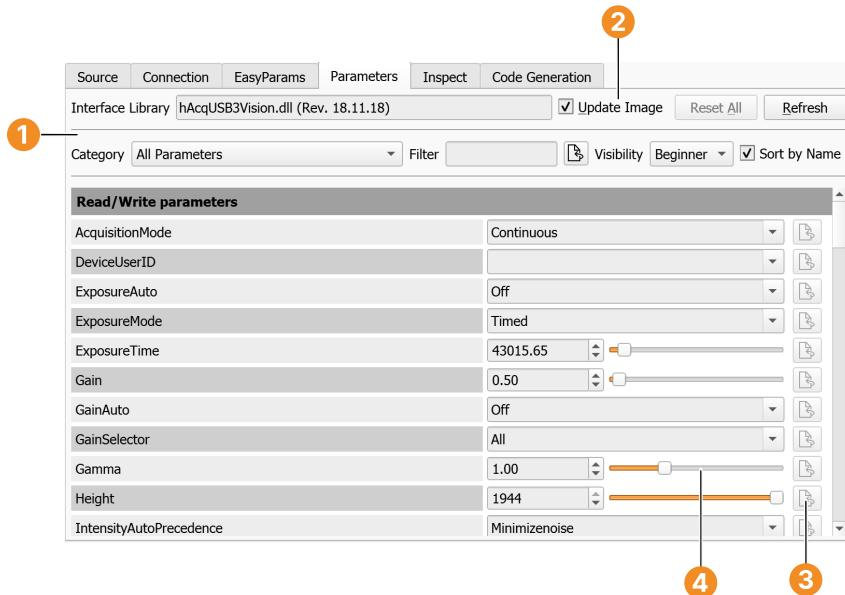

Figure 3.7: Device-specific parameters (example).
The tab card **Parameters** contains a list of parameters specific to the selected device. It becomes available once the connection to the device has been activated. See figure 3.7 for an example parameter list. The range of parameters can be limited by category and visibility ①. Please refer to the HTML page of the selected interface for detailed information. You can click the help button of the assistant to get to the corresponding page automatically.